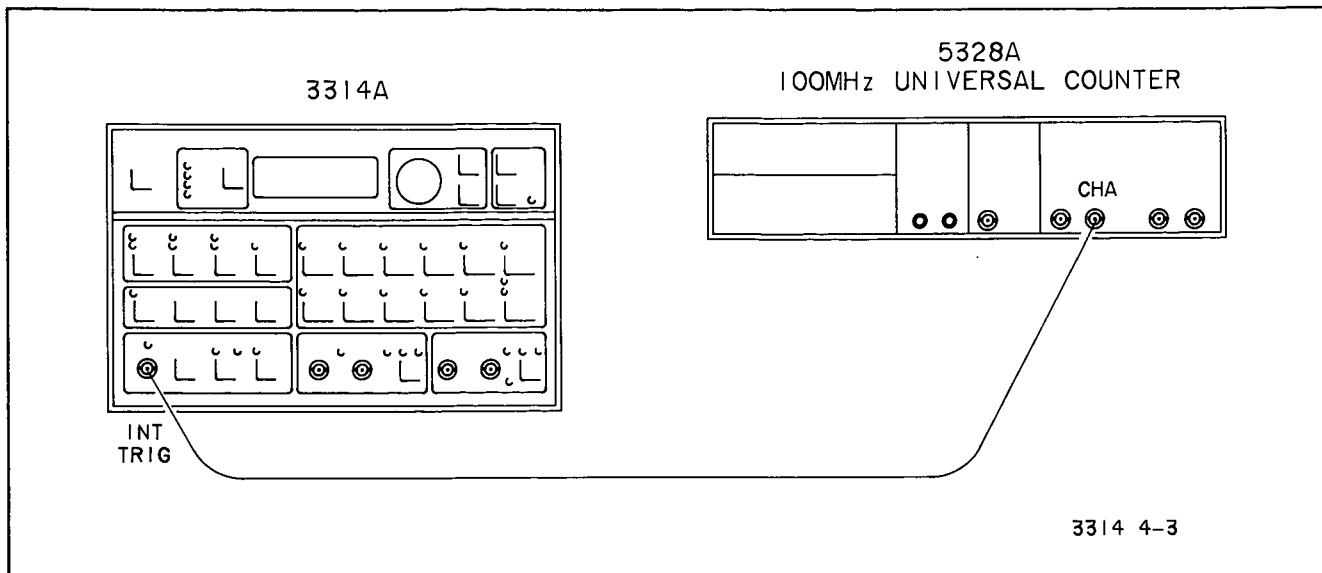

Figure 4-3. Internal Trigger Accuracy
C. Connect the 3314A to the Counter as shown in Figure 4-3.